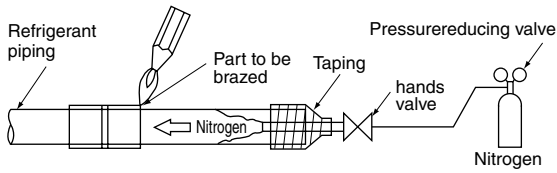

Fig. 7
- Perform nitrogen substituent or apply nitrogen into the refrigerant piping (see NOTE 1) in the case of refrigerant piping brazing (see NOTE 2). Then perform the flare connection of the indoor unit. (Refer to Fig. 7)